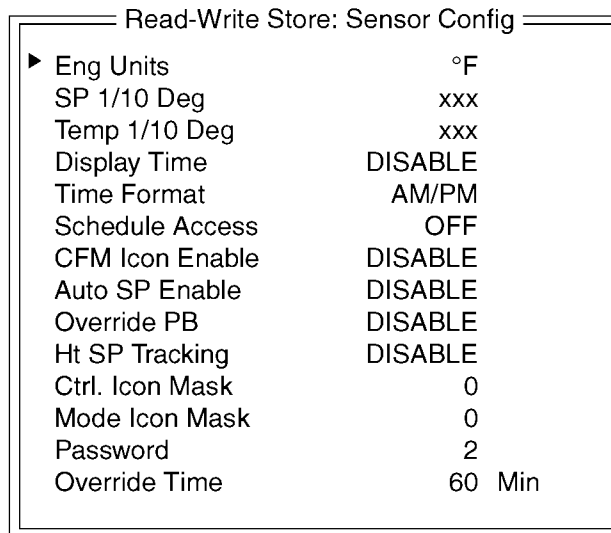

Figure-4.36 Sensor Config Data Store.
4. Select the data store that contains the attribute(s) that you wish to edit and press <Enter>. The data store appears (Figure-4.36).